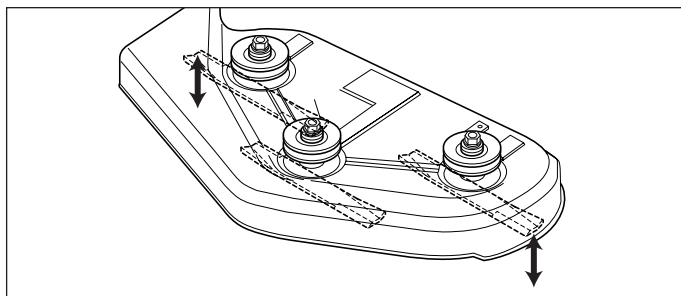
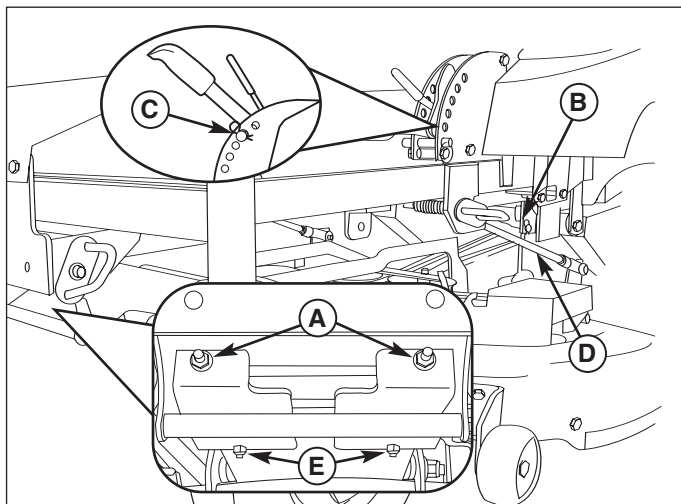

Figure 28. Orient Blades Side-to-Side
Figure 30. Mower Leveling
3. Place the mower cutting height pin in the 4th hole from the bottom (see insert, Figure 30). Arrange the outside mower blades so that they are pointing from side-to-side (Figure 28).
4. Measure the distance between the outside tips of each blade and the ground (Figures 28 & 29). If there is more than 1/8" (3mm) difference between the measurements on each side, proceed to step 5. If the difference is 1/8" (3mm) or less, proceed to step 6.
5. Use the rear leveling links (B, Figure 30) to adjust the side-to-side leveling of the deck. Repeat step 4 if necessary.
8. Check the length of the hanging rods. The rear (D, Figure 30) should be 15" (38,1cm) and is not adjusted. To adjust the pitch of the mower deck, adjust the front leveling nuts only.
9. Loosen the front lock nuts (E, Figure 30).
10. Turn the leveling nuts (A, Figure 30) counter-clockwise to lower the front of mower deck. Turn the nuts clockwise to raise the front of the mower. Make adjustments in small increments, trying to keep tension on both leveling nuts.
11. Tighten the front lock nuts (E).
3. Place the mower cutting height pin in the 4th hole from the bottom (C, Figure 30).